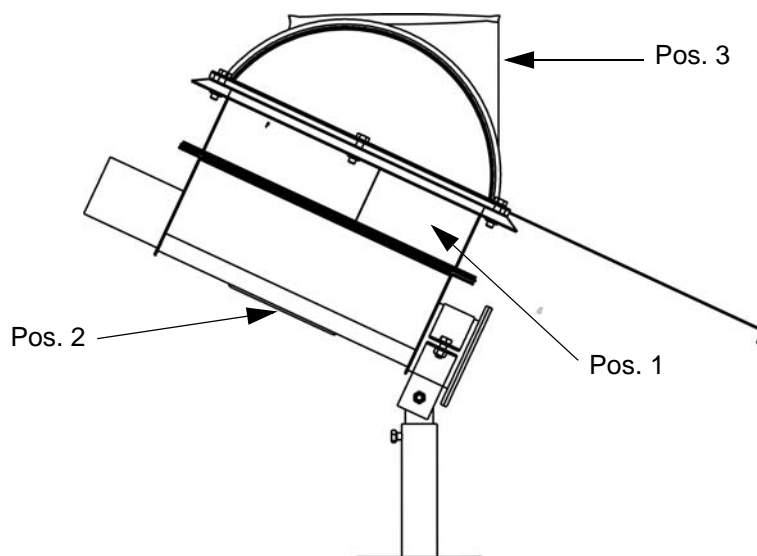

Fig. 2: Correct installation of the decoupling
The decoupling (fig. 2, pos. 1) is installed between the lower part for silo boot (fig. 2, pos. 2) and the basic silo boot (fig. 2, pos. 3).